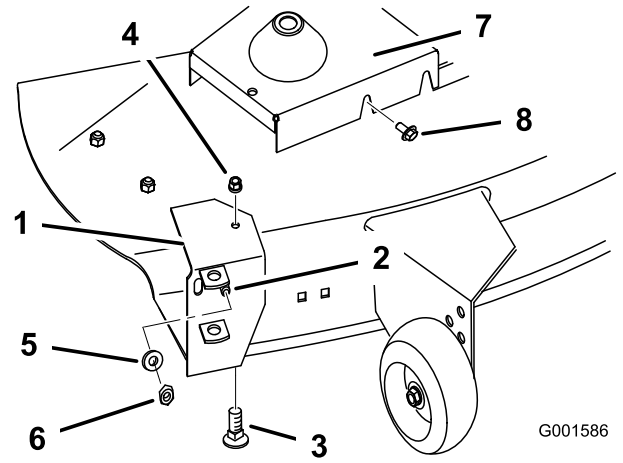

Figure 5
1. Slide the pivot support over the threaded stud welded to the front of the mower near the discharge opening. Use the inside slot on the pivot support so that the pivot support is closest to the discharge opening (Figure 5).
2. Align the pivot support parallel with the front curved edge of the mower deck and tight up against the top of the mower. (Figure 5).
3. Secure the pivot support to the mower with a bolt (5/16 x 3/4 inch) and a flange nut (5/16 inch) (Figure 5).
4. Place a jam nut (3/8 inch) and washer (3/8 inch) snug onto the stud. Do not overtighten the jam nut (Figure 5).
5. Remove the mower belt cover from the right side pulley (Figure 5).